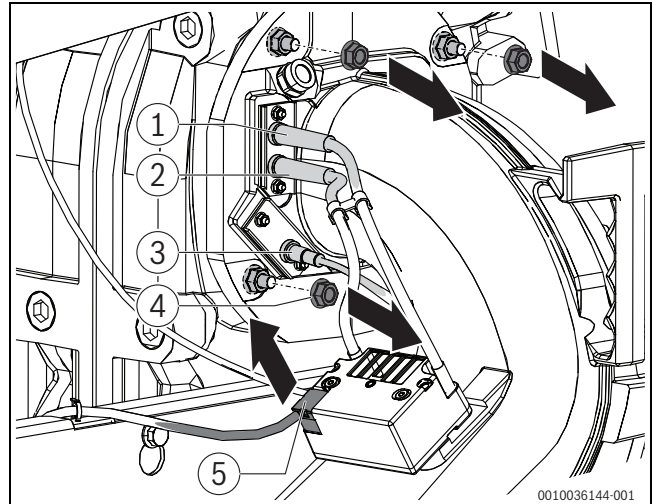

Fig. 49 Undo the connecting cable and nuts on the ignition transformer
- Undo the connecting cable on the ignition transformer (→Fig. 49, [5]).
- Remove the 4 fixing nuts (→Fig. 49, [4]) at the top on the mixture manifold.
- ▶ Remove the 4 fixing nuts (→Fig. 49, [4]) at the top on the mixture manifold.
- ▶ Undo the connecting cable on the ignition transformer (→Fig. 49, [5]).